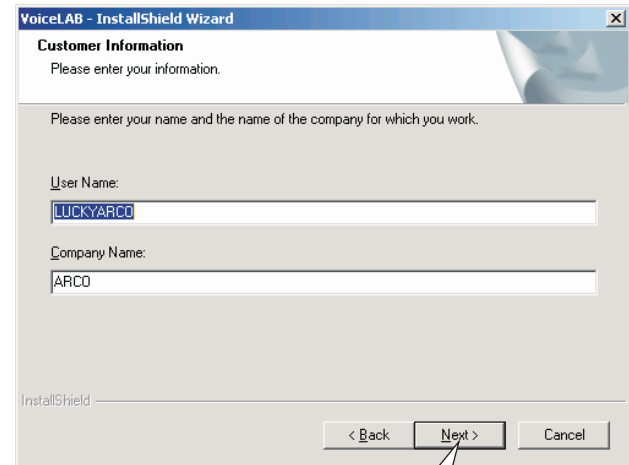

Figure16
- Enter the user name and company name, click NEXT to enter Next step, as shown in figure 16: